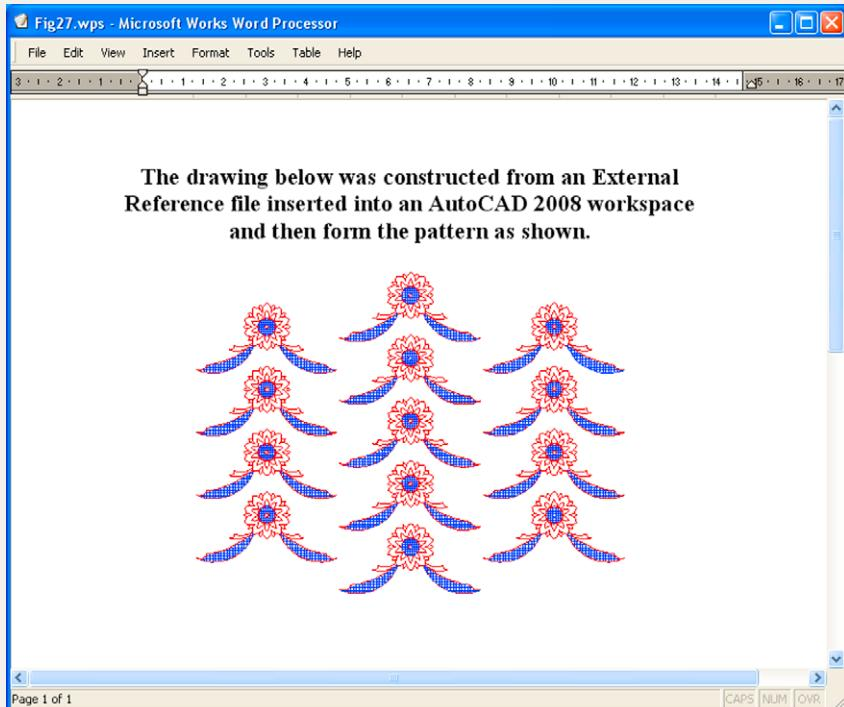

Fig. 10.31 Exercise 4 – an example
4. Using Copy from the Insert drop-down menu, copy a drawing from AutoCAD 2010 into a Microsoft Word document. An example is given in Fig. 10.31. Add some appropriate text.